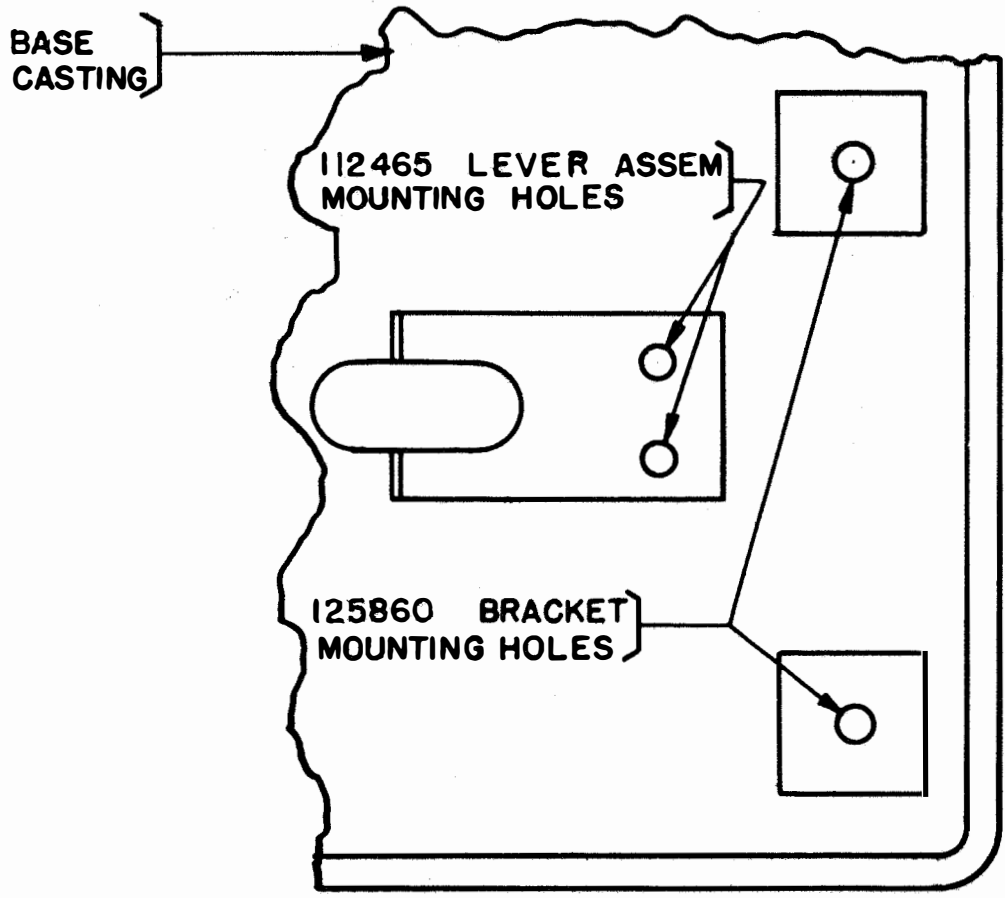

FIGURE 4
(3) The two holes, already in the base casting, between the 125860 bracket mounting holes and slightly to the left of a line through the bracket mounting holes (Figure 4), should be used to mount the 112465 lever assembly. Two 6746 screws and two 2191 lock washers, also furnished with the set of parts, are provided for this purpose. The 112465 lever assembly should be positioned so that the trip-off lever extension is toward the right side of the unit.